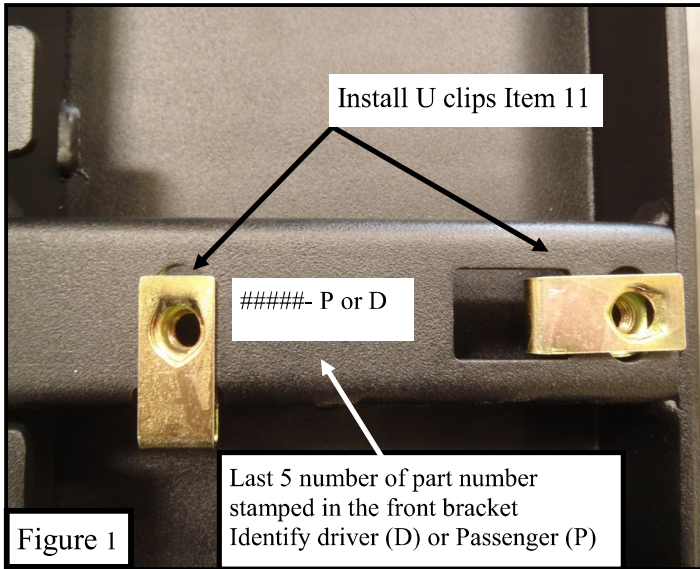

Figure 1
- Identify driver and passenger side running boards and install M8 u-nut clips (Item 10) to the underside of the boards. **Figure 1.**